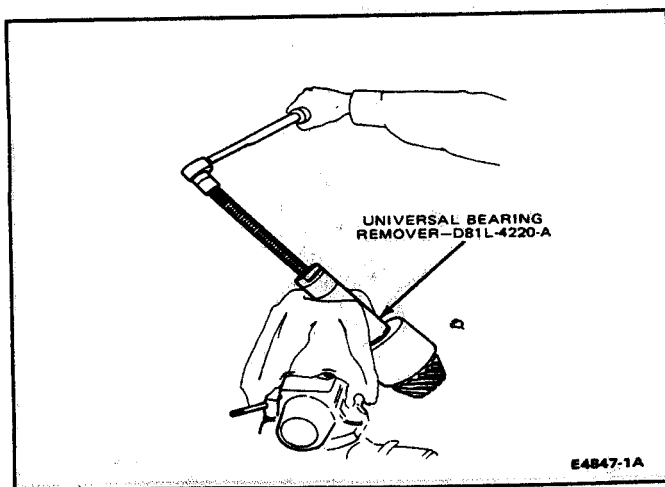

FIG. 23 Drive Pinion Bearing Removal
16. Remove the bearing and oil slinger from the drive pinion with Universal Bearing Remover, D81L-4220-A (Fig. 23).